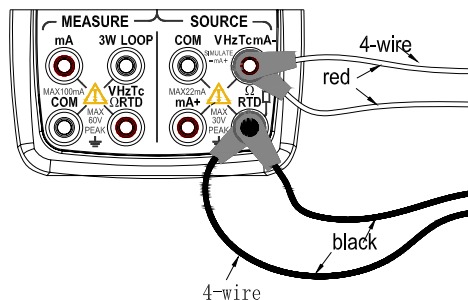

Figure 9 - Connection method based on three-wire and four-wire
Step 4: To switch OFF the output, press the **(ON)** key again. The **OFF** icon appears on the LCD and no signals are sourced between the terminals. The connection method based on three-wire and four-wire is shown in Figure 9:
Step 4: To switch OFF the output, press **(ON)** again. The “OFF” icon appears on the LCD and no signals are sourced between the terminals. The connection methods based on three-wire and four-wire are shown in Figure 9.